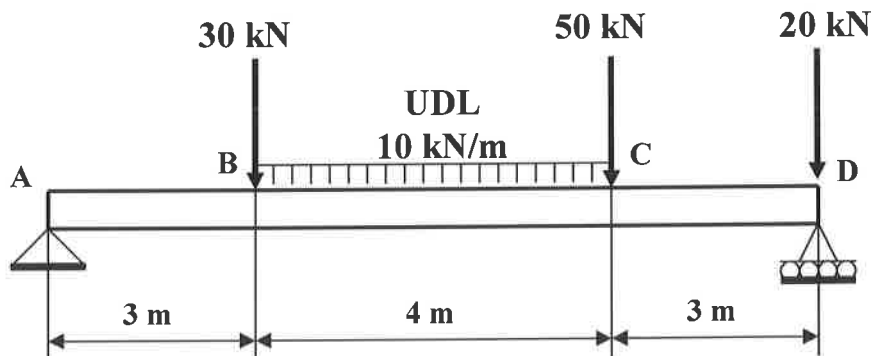

Figure Q2
2. A beam ABCD is simply-supported at A and D by a knife edge and a roller respectively and is point loaded at B, C and D, with a udl between B and C as shown in Figure Q2.